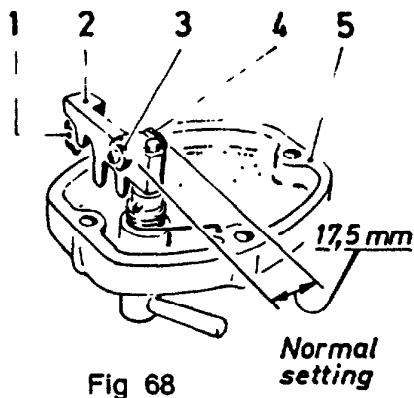

Fig 68
1. Adjust idling by loosening lock nut (2) and screwing adjusting screw in or out. If the adjusting screw (3) is screwed in, the idling spring tension is increased and the idling speed increases.
3. Adjustment of the extent of the idling region (not normally needed), see fig 68.